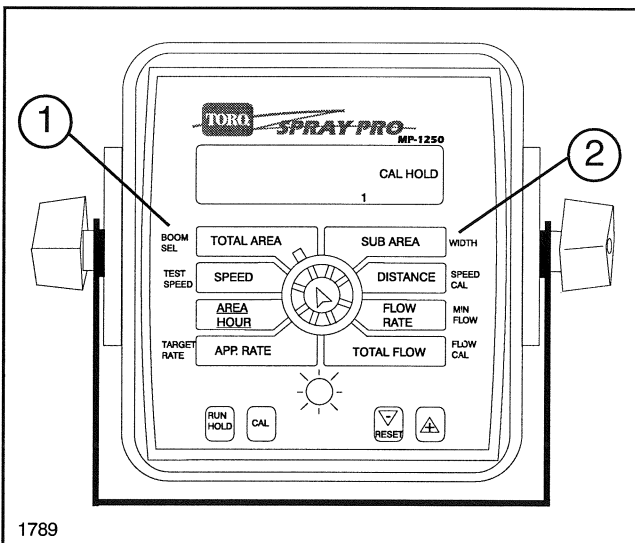

FIG. 1
BOOM SEL: Used to select the Boom Section for Width entry. Some early models of this Monitor may not have the "Boom Sel" Graphics. If the Rate Monitor has two (2) leads coming from the back, this function is available. See FIG. 1.
WIDTH: Used in calibration mode to enter the working width of the individual Boom Sections. See FIG. 1.